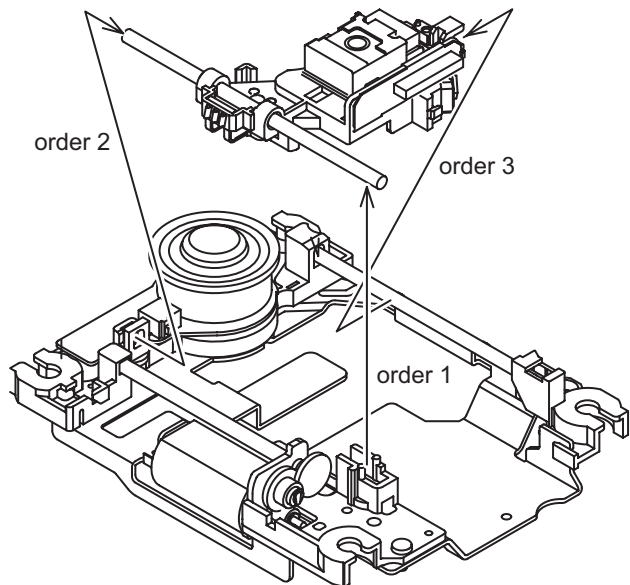

Fig.12
- (5) Take out the pickup assembly from traverse mechanism chassis by order. (See Fig.12)